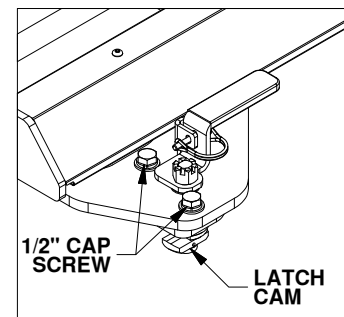

Figure B4: View of base foot
- Each leg of the Companion base has an adjustable pilot assembly which is attached to the foot with two 1/2" cap screws, as shown in figure B4. To adjust the pilot assemblies that do not fit into the attachment points, loosen both the 1/2" cap screws so the pilot assembly can move freely, see figure B4. Set the base over the attachment points and adjust the pilot assemblies until the pilot keys pass through the slot in the attachment points and the pilot shoulders rest flat against the top of the attachment points. When all the pilot assemblies are aligned and inside the attachment points, push the base towards the cab and use a tape measure to verify that the base is approximately square with the truck bed. Tighten any loose cap screws to 80 ft-lbs.